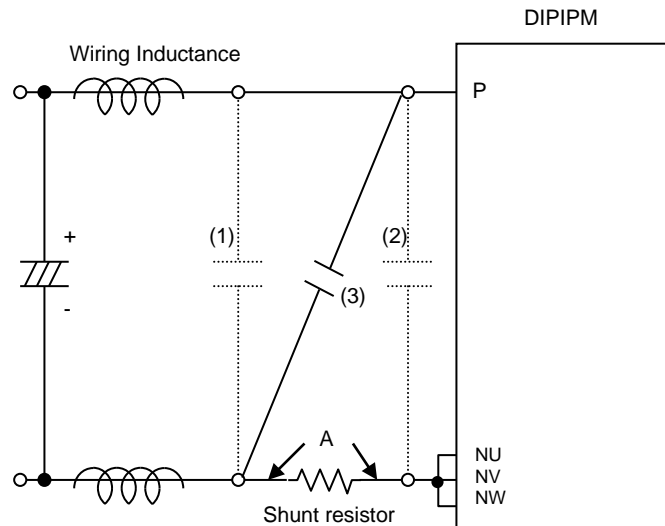

Fig.3-1-8 Recommended snubber circuit location
There are two positions ((1) or (2)) to mount a snubber capacitor as shown in Fig.3-1-8. Snubber capacitor should be installed in the position (2) to suppress surge voltage effectively. However, the charging and discharging currents generated by the wiring inductance and the snubber capacitor will flow through the shunt resistor, which might cause erroneous protection if this current is large enough.